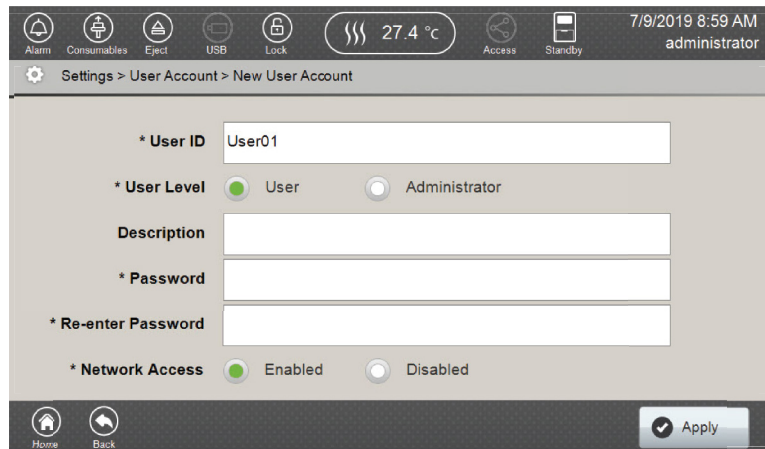

Figure 166. 'New User Account' screen. The 'New User Account' screen displays the available user settings.
2. Select **Create** in the footer to open the 'New User Account' screen (Figure 166).